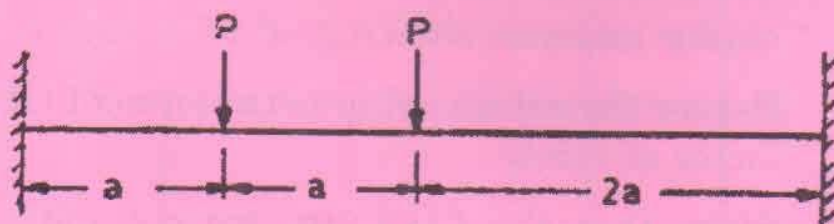

Fig. 4
- (a) Calculate the collapse load for the beam shown in Fig. 4 by mechanism method. Validate the result by statical method. Assume the beam to be both of constant section, the fully plastic moment being M_p